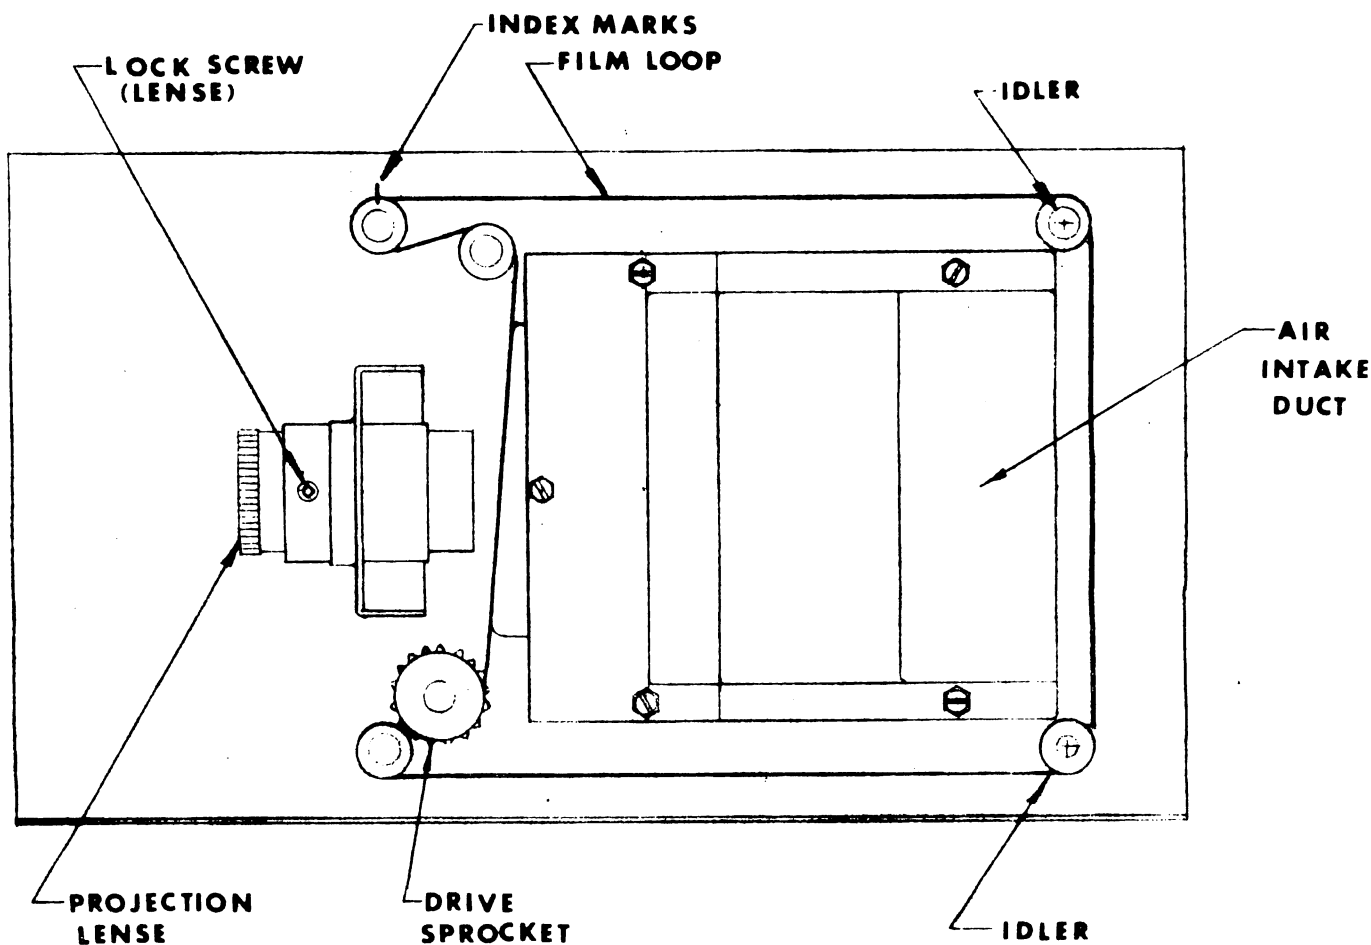

Fig. 1
3. Loosen set screw on projection lense mount. (See Figure 1)